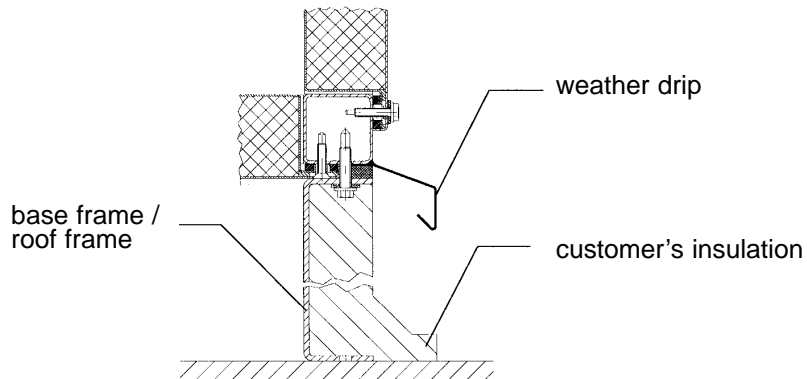

Fig. 10 Factory-assembled base or roof frame
2. Factory fitted base frame or roof frame (see Fig. 10)